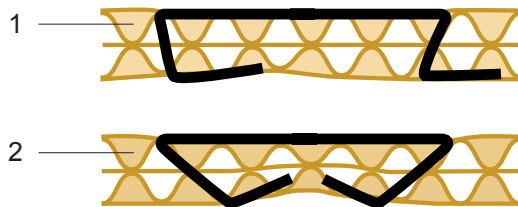

Fig. 10
Each plier is tested carefully before delivery. By rough treatment during operation the anvil therefore might need to be adjusted. Uncorrect clenching may then occur (Fig. 10/1).
- Make a test-stapling in a piece of carton. If the anvil is correct adjusted the clench should be like in (Fig. 10/2).